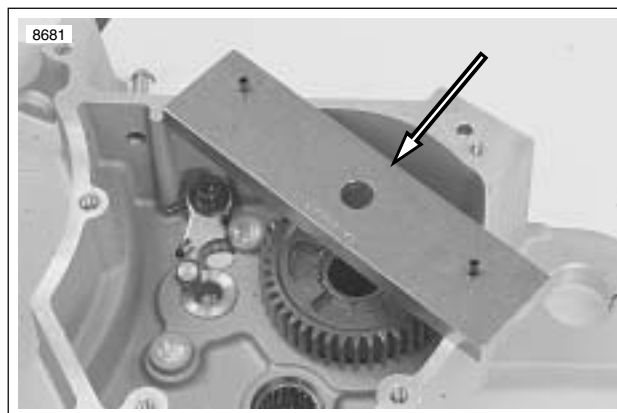

Figure 6-75. Bearing Remover Cross Plate Mounting (Part No. B-45847)
1. See Figure 6-75. Locate MAIN DRIVE GEAR REMOVER AND INSTALLER (Part No. HD-35316-A). Place cross plate pins in appropriate holes in transmission case.